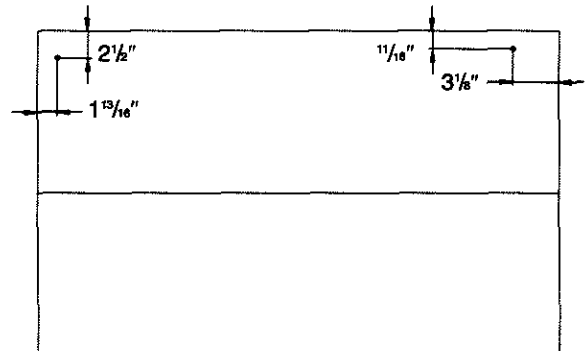

Figure 7 – Drill Mounting Holes for Scroll Saw
**NOTE:** Use pan head screws and lock nuts. (Figure 7, Key Nos. 8 and 9) to assemble all components except the top and leveling pad.
**IMPORTANT:** For scroll saw 22436, the two rear and one of the front mounting bolts will need to be located through the slots in the frame. Carefully drill the two holes shown in Figure 7 and then place saw on stand, mark location of the other two holes, then drill holes.